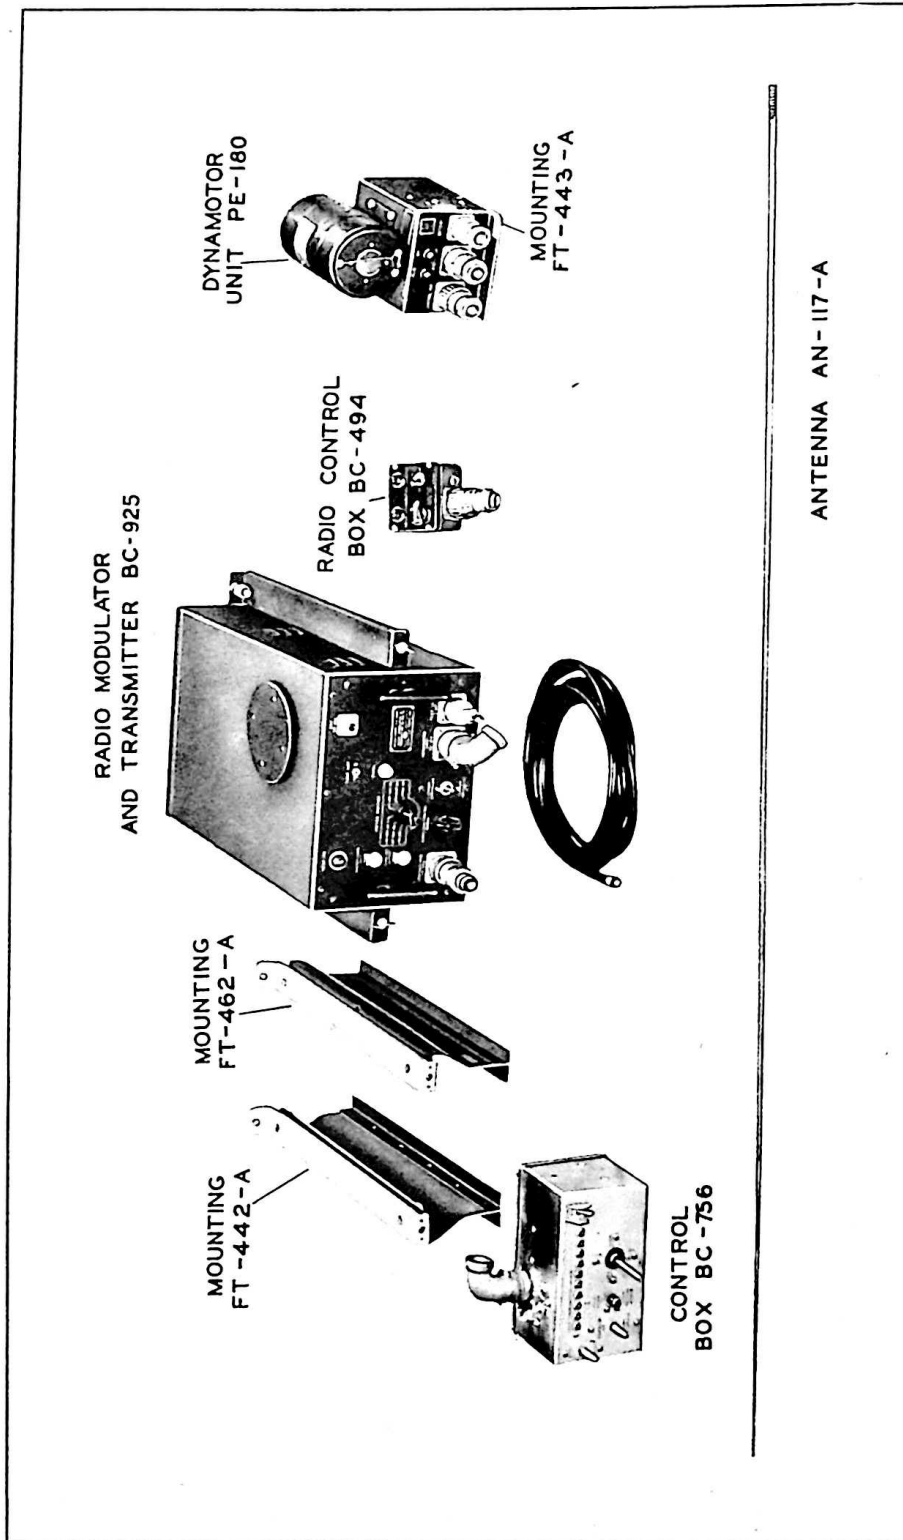

Figure 1—Complete Target Control Transmitting Equipment RC-65
b. Purpose of the equipment (see fig. 1) is to control large airborne targets. The useful control range varies with the type of installation and the type of receiving equipment used.